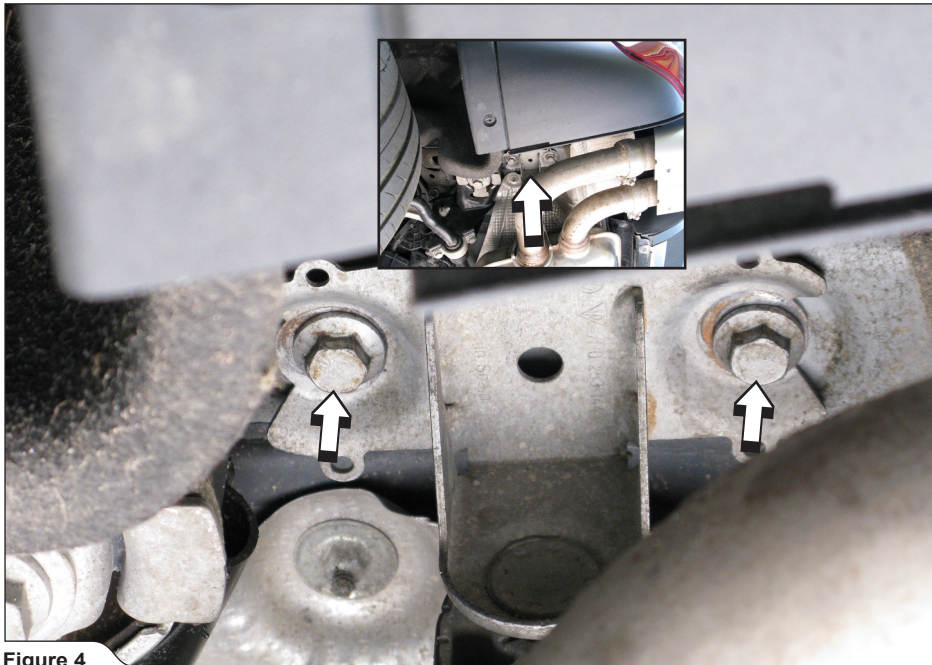

Figure 4
4. **For all models:** support the muffler, unscrew the marked bracket bolts on both sides and carefully remove the muffler off the vehicle (**Figure 4**).